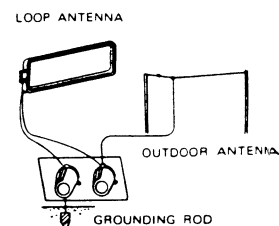

Fig. 4
• MW and LW ANTENNA CONNECTION (Fig. 4)